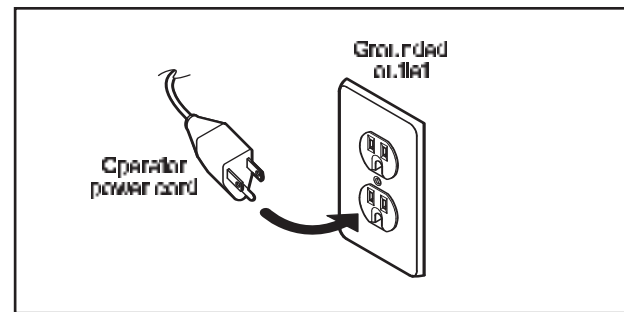

Fig. 5-1
- Some building codes require direct wiring to a branch circuit. If direct wiring is NOT required, plug door operator into grounded outlet (Fig. 5-1).